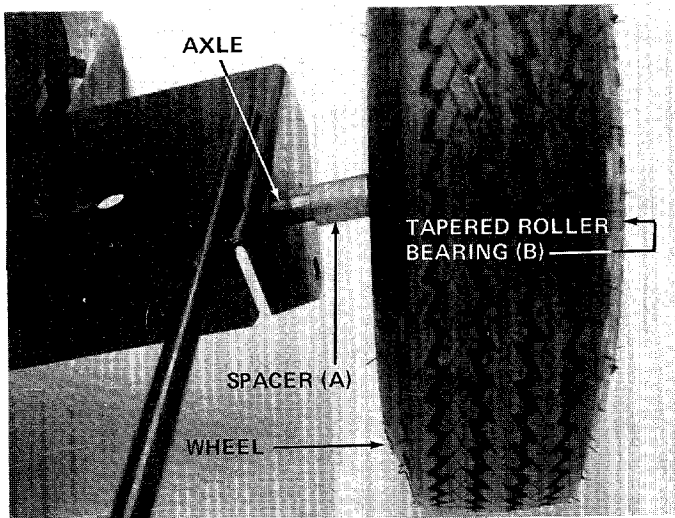

FIGURE 2
2. Place one spacer (A) on axle, then one wheel and tapered roller bearing (B). See figure 2.